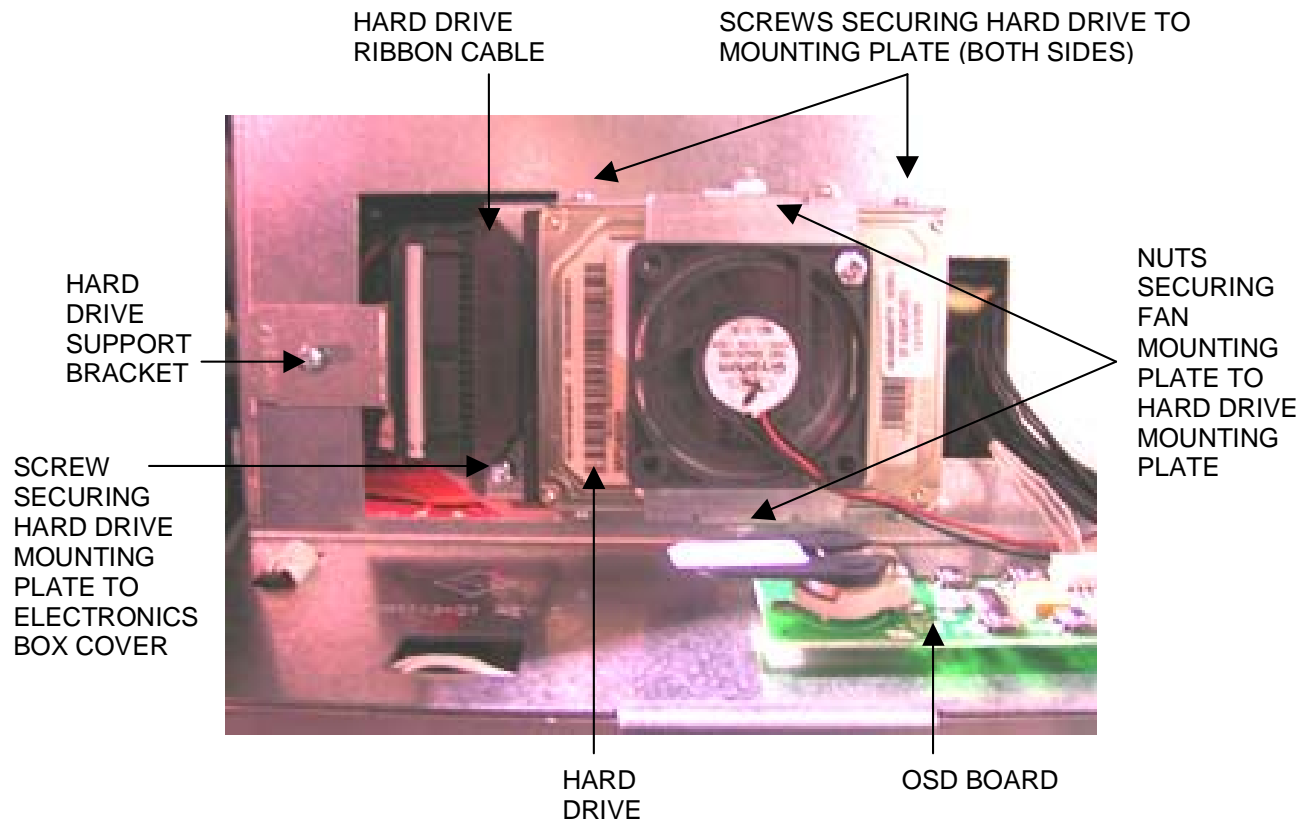

FIGURE 1 - HARD DRIVE ASSEMBLY ON ELECTRONICS BOX
3. Loosen the screw on the hard drive support bracket (on some models) and disconnect the hard cables from the hard drive. See Figure 1.